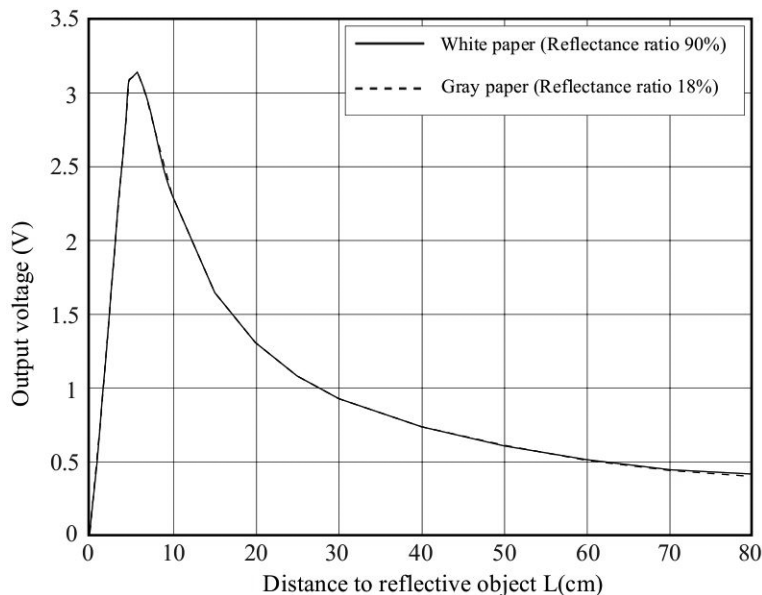

Figure 12-24: Graph of IR sensor distance versus output voltage
To wire the sensor, connect the red and black wires on the sensor to 5 V and GND, respectively, with the white wire connecting to an analog input pin on your Arduino. We'll use `analogRead()` to measure the voltage returned from the sensor. The graph in Figure 12-24 shows the relationship between the distance measured and the output voltage.
The sketch reads the voltage from the IR sensor at ❶ and then uses a series of if statements at ❷ to choose which approximate distance is being returned. We determine the distance from the voltage returned by the sensor using two parameters. The first is the voltage-to-distance relationship as displayed in Figure 12-24. Then, using the knowledge (from Project 6) that `analogRead()` returns a value between 0 and 1,023 relative to a voltage between 0 and around 5 V, we can calculate the approximate distance returned by the sensor.